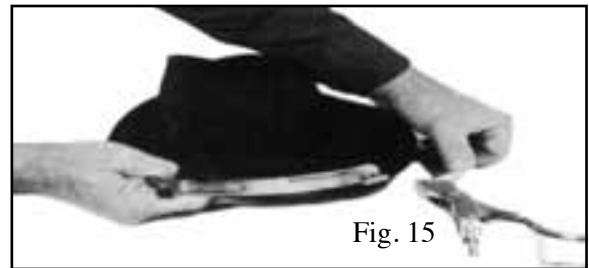

Fig. 15
4) The two ends of the neck clamp are now overlapping. The block that receives the threaded adjustment arm is protruding on the rubber sleeves on a new neck dam and should be in the correct position on a previously used neck dam, sticking out of the second hole.(Fig. 15) The lever end of the neck clamp must now be inserted into the guide tracks of the other end.